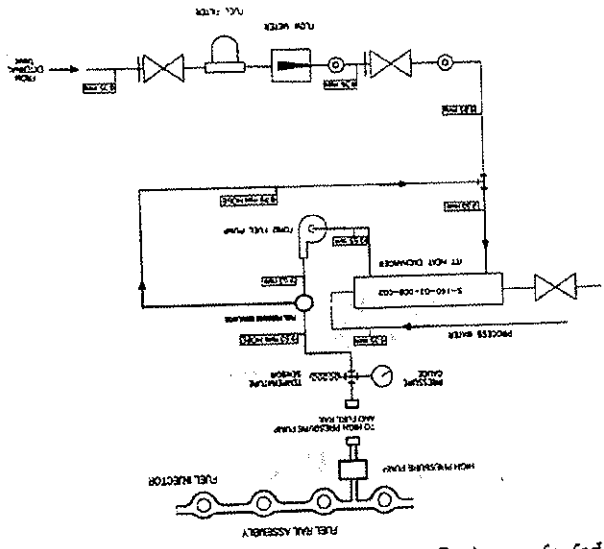

Figure 1. Fuel Supply System
Does the fuel system conform to figure 1
6.4 Use an appropriate fuel supply system (Figure 1 Error! Reference source not found.).